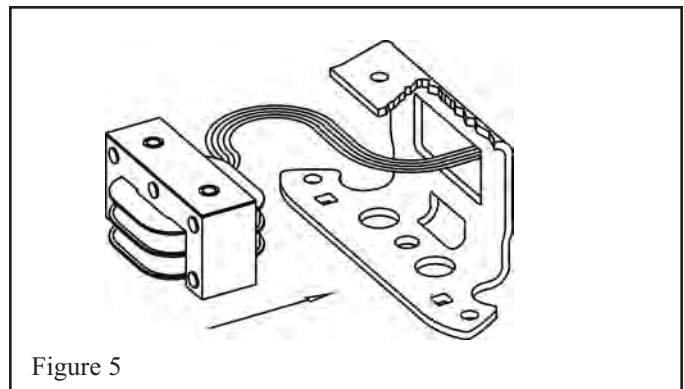

Figure 5
4. Replace shock mount and magnet, feeding coil wires through hole in back of bracket (25B) as shown in Fig. 5. Tighten mounting screws with 55 to 60 lb-in torque.